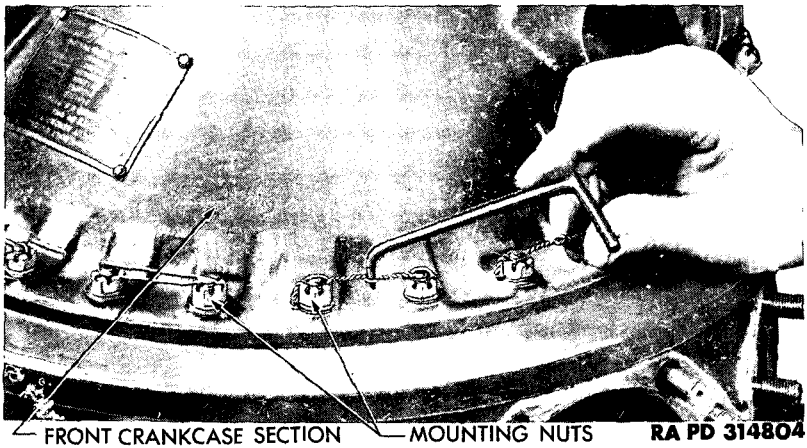

Figure 226 – Securing Front Crankcase Section
l. Install Front Thrust Bearing. With markings on front thrust bearing facing up, place bearing over crankshaft. Using driver, drive bearing into recess in front crankcase section (fig. 225). Install flat washers over main crankcase section mounting studs, and install mounting nuts. Tighten mounting nuts securely and evenly, and secure with lock wire. Tighten lock wire by method shown in figure 226. Install front cover section laminated shim over front crankcase section mounting studs and dowel (fig. 227). Place front cover in position over studs and against shim.